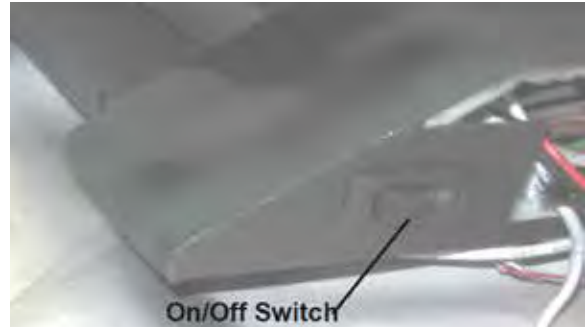

Figure 7.2 On/Off Switch
- The On/Off switch is located on the front right side of the burner assembly as shown in Figure 7.2